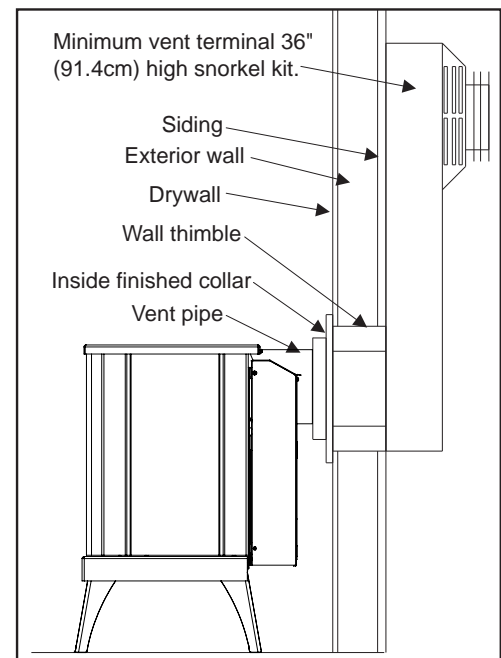

Figure 40: Installation for Rear Vented; 30,000 Btu/hr.
4. Turn the elbow to the rear vent position and re-fasten with the screws removed in step 2 (see Figure 40).